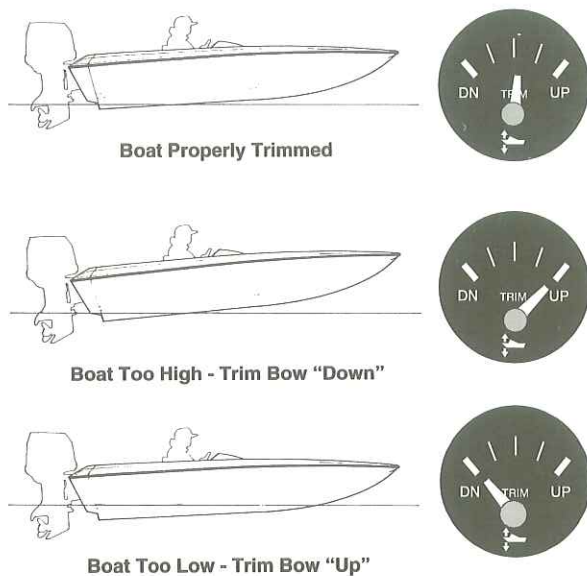

FIGURE 8-3 TRIMMING THE BOAT OUTDRIVE
3. In the case of low or heavy bow attitude, the boat tends to “plow” (Figure 8-3). The outboard is trimmed too far down (in). Trim the outboard up (out) to correct this situation.
4. If the bow is too high, the boat tends to “porpoise” (Figure 8-3) and the bow will bounce up and down on the water. The outboard is trimmed too far up (out). Trim down (in) to correct. The boat is trimmed correctly when it is just short of porpoising. If you are an inexperienced driver or are having difficulty correcting a porpoising condition, reduce your speed until the boat levels off.